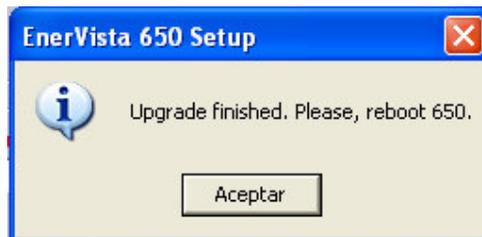

FIGURE 9-33: FIRMWARE UPGRADE ENDED
9.3.2.11 When the whole process has finished a message will be displayed asking to switch OFF and ON the F650 relay (Figure 9-33).